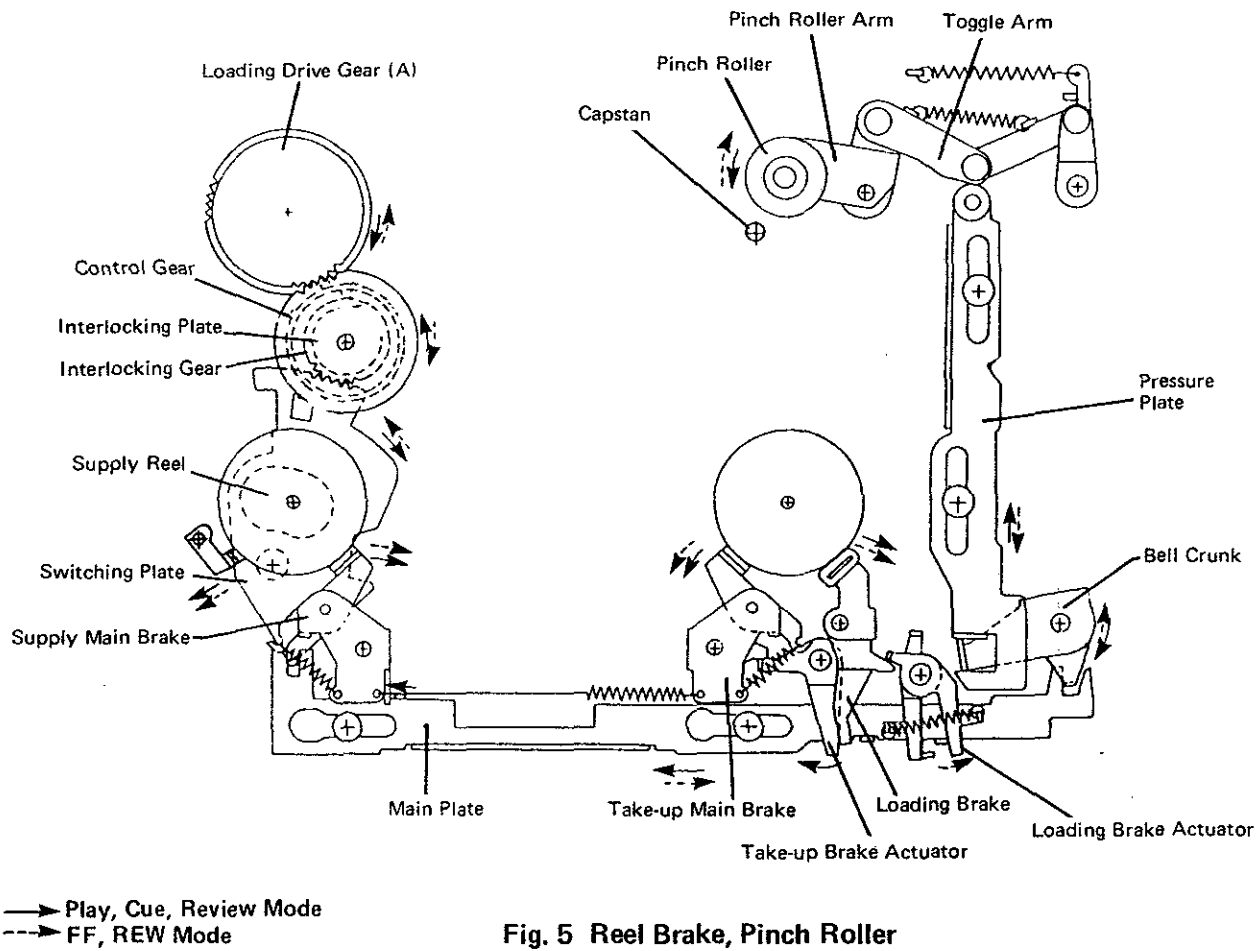

Fig. 5 Reel Brake, Pinch Roller
2. Controls the brakes (Fig. 5).
3. Controls the pinch roller (Fig. 5).